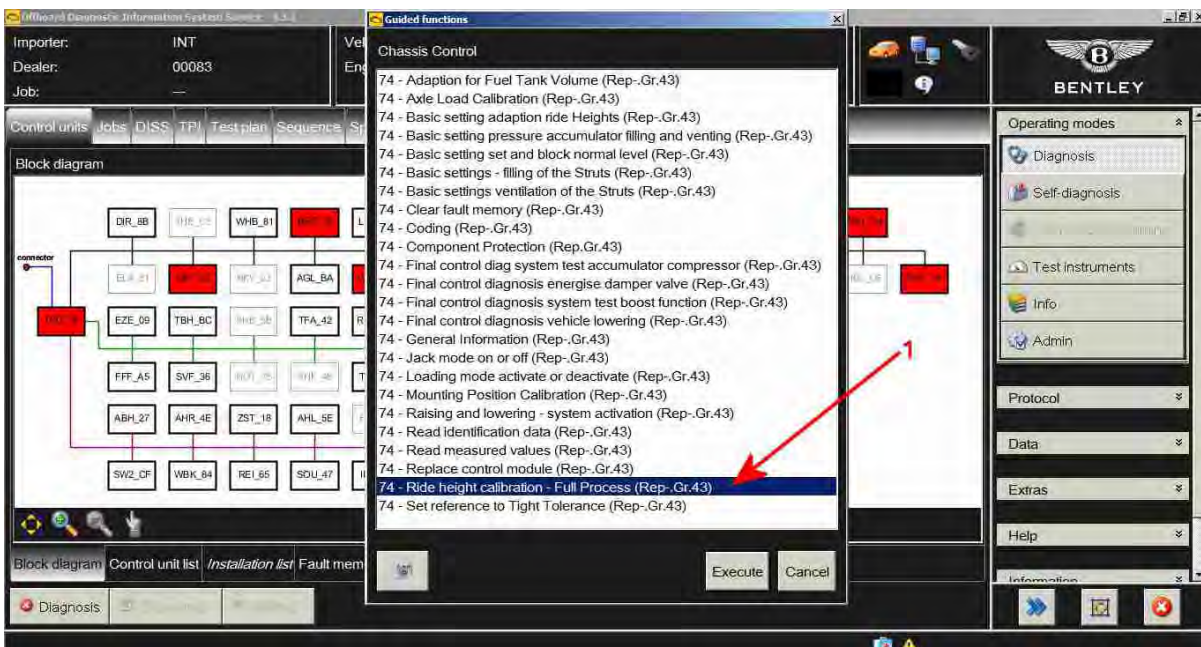

Figure 8
- Referring to Figure 8, Carry out the Ride height Calibration – Full Process